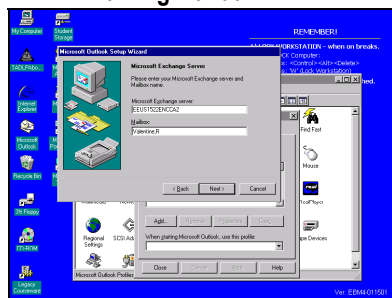

FIGURE II.6
- 6) The next setup window will appear; you will be entering the server name and your name. (see figure II.6) The server name to be used is EEUS1522ENCCA2